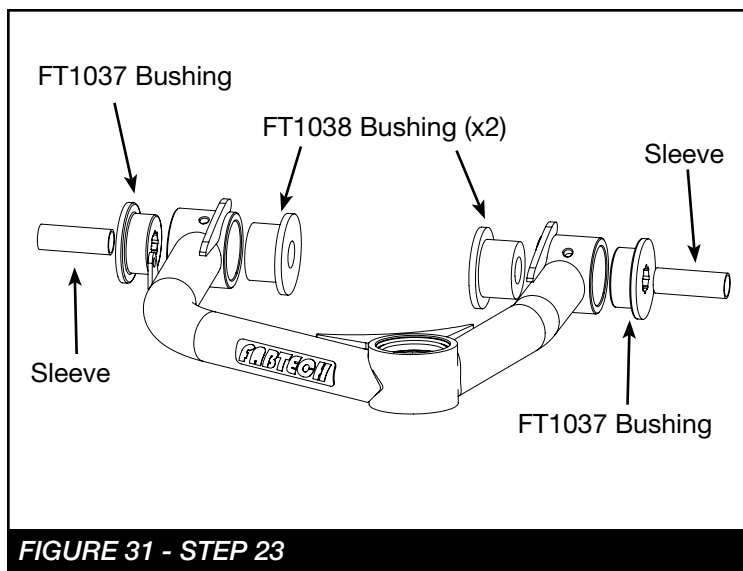

FIGURE 31 - STEP 23
23. Locate the new Fabtech control arms, two FT1038 bushings, two FT1037 bushings, two FT84 grease zerks, and two sleeves. Using the supplied grease packet, grease the bushings and sleeves before installing into the control arm. **SEE FIGURE 31**